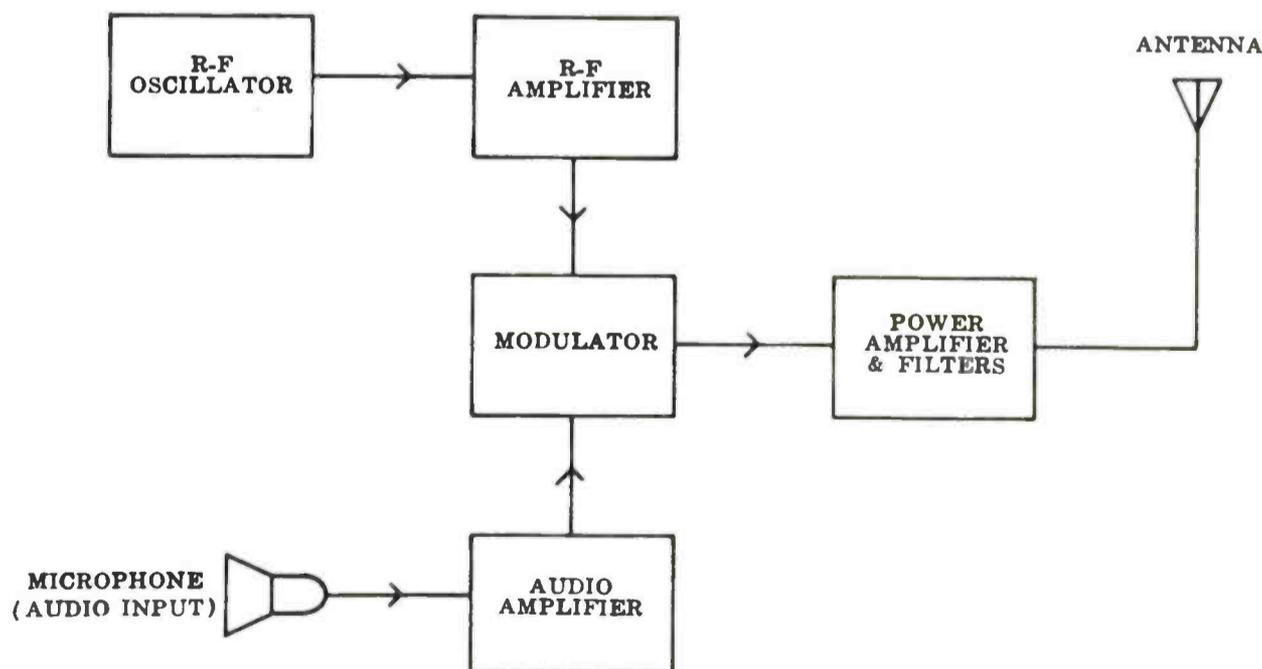

Figure 5
**17** Your answer is correct. A block diagram for a standard AM broadcast transmitter is shown in figure 5. This is a simplified version with only the essential blocks shown. The oscillator is the source of the radio waves, since it generates the r-f carrier. Both the r-f carrier and audio signals are amplified and then combined in the modulator to produce the AM signals. These signals are amplified again before being radiated into space via the transmitter antenna.